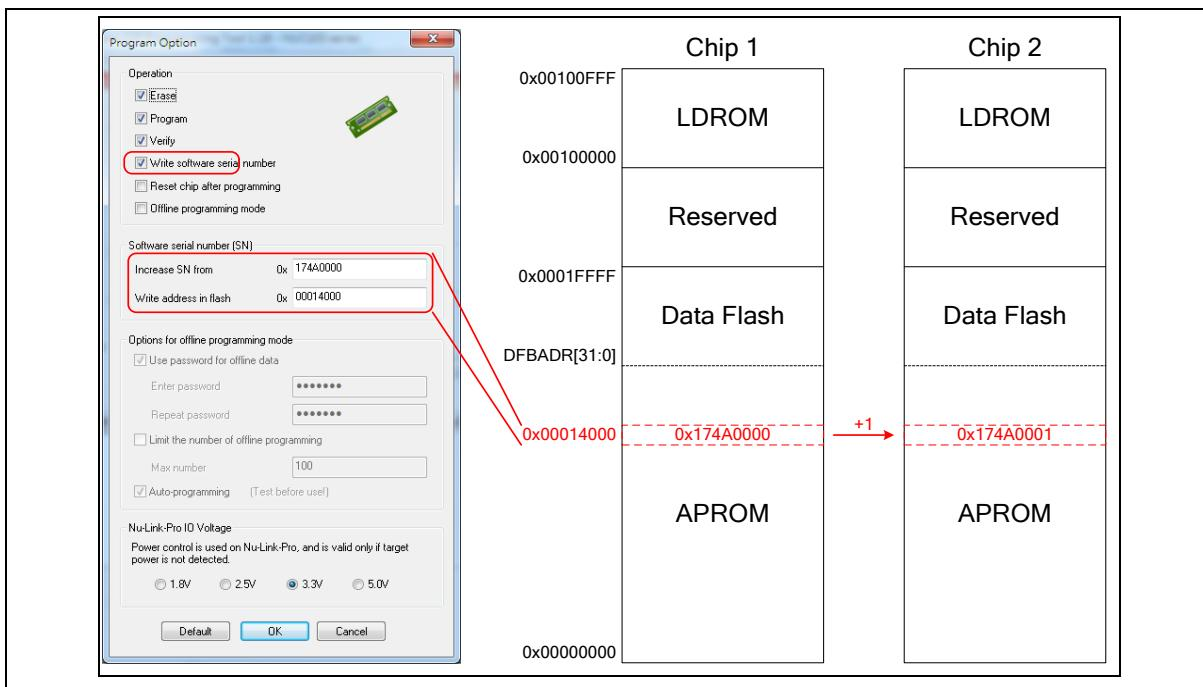

Figure 4.2-3 Software Serial Number (SN) Settings
4.2.4 Software Serial Number (SN)
The Software Serial Number (SN) function provided by the ICP Tool enables users to specify the value in the **"Increase SN from"** and **"Write address in flash"** fields for the target chip during online/offline programming. Take the M031 series chip for example, the user can specify a set of "Increased Serial Number (SN)" and "Write Address" to any of APROM, LDROM, and Data Flash, and the written Serial Number (SN) will be automatically incremented (as shown in Figure 4.2-3).